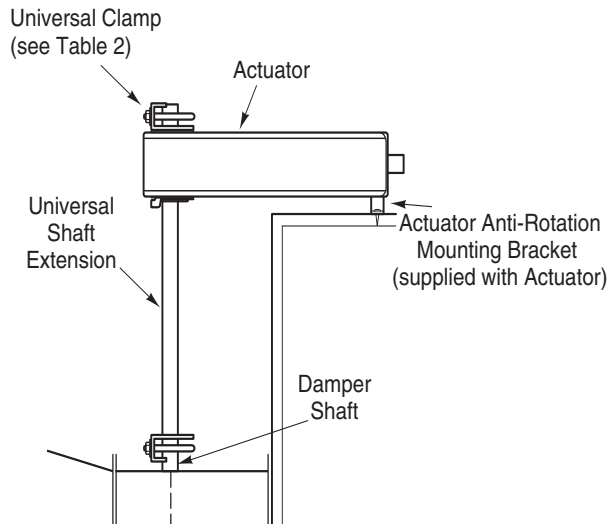

Figure-1 Installation of Universal Shaft Extension.
3. Assemble the damper actuator onto the universal shaft extension, allowing the extension to slide through the actuator's universal clamp assembly. Fit the actuator mounting bracket onto the actuator and position the actuator and bracket on the mounting surface. See Figure-1.